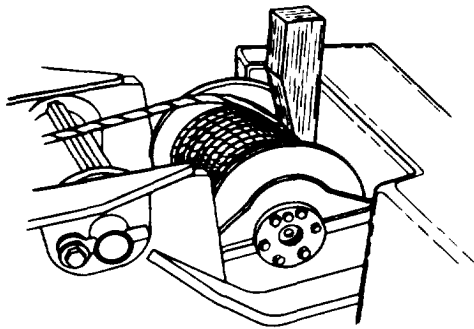

Figure 5-6. *Wedge Block in Winch Drum*
1. Remove hoist cable from lift arm (16) as follows:
- b. Lower hook block to ground and pay out cable 12 in. (305 mm) while maintaining tension on cable. Insert wedge block in winch drum (Figure 5-6).